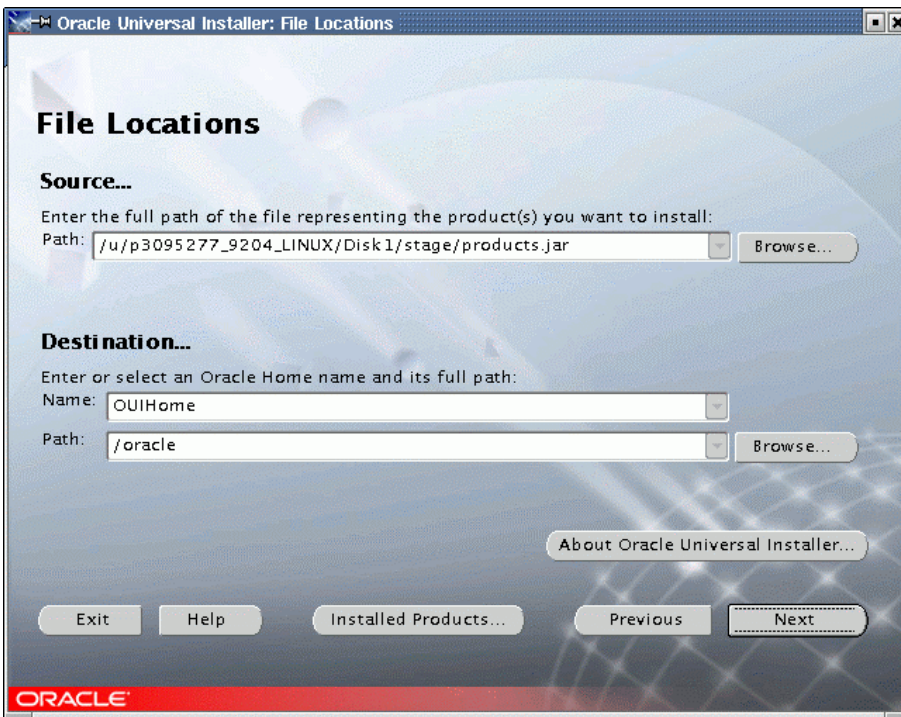

Figure 54. File Locations
- The File Locations screen asks for the path of the install file. The unzip'd patch file is in /u, so the full path name is /u/p3095277_9204_LINUX/Disk1/stage/products.jar. Modify the screen (Figure 54) as needed and click **Next** to continue.